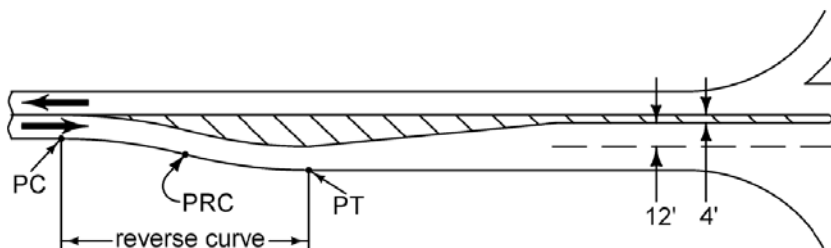

Figure 2: Reverse curve used to redirect a through lane at an intersection.
Given a design speed of 50 mph and a lane width of 12', we wish to design a reverse curve to redirect a through lane to accommodate a 16' median for a left turn lane, as seen in Figure 2. Assume a normal crown (NC) section.